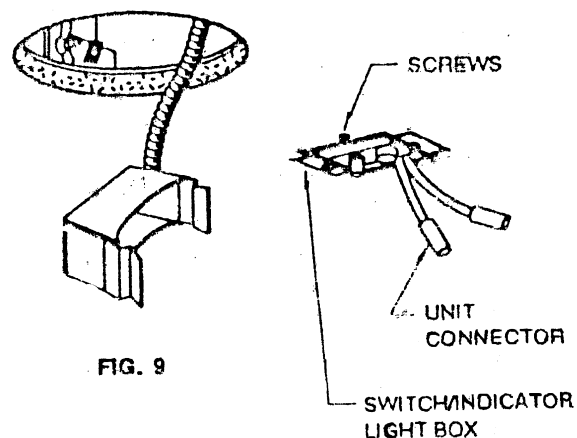

FIG. 9
2. Cut hole in ceiling for SWITCH/INDICATOR LIGHT BOX in a convenient location to the side or end of frame (Fig. 9). The recommended hole size is 2" x 3 1/4".
4. Pull down SWITCH/INDICATOR LIGHT BOX (Fig. 9) and clamp on to ceiling by tightening SCREWS on side of box (Fig. 9).
5. Connect UNIT CONNECTOR in SWITCH BOX (Fig. 9).